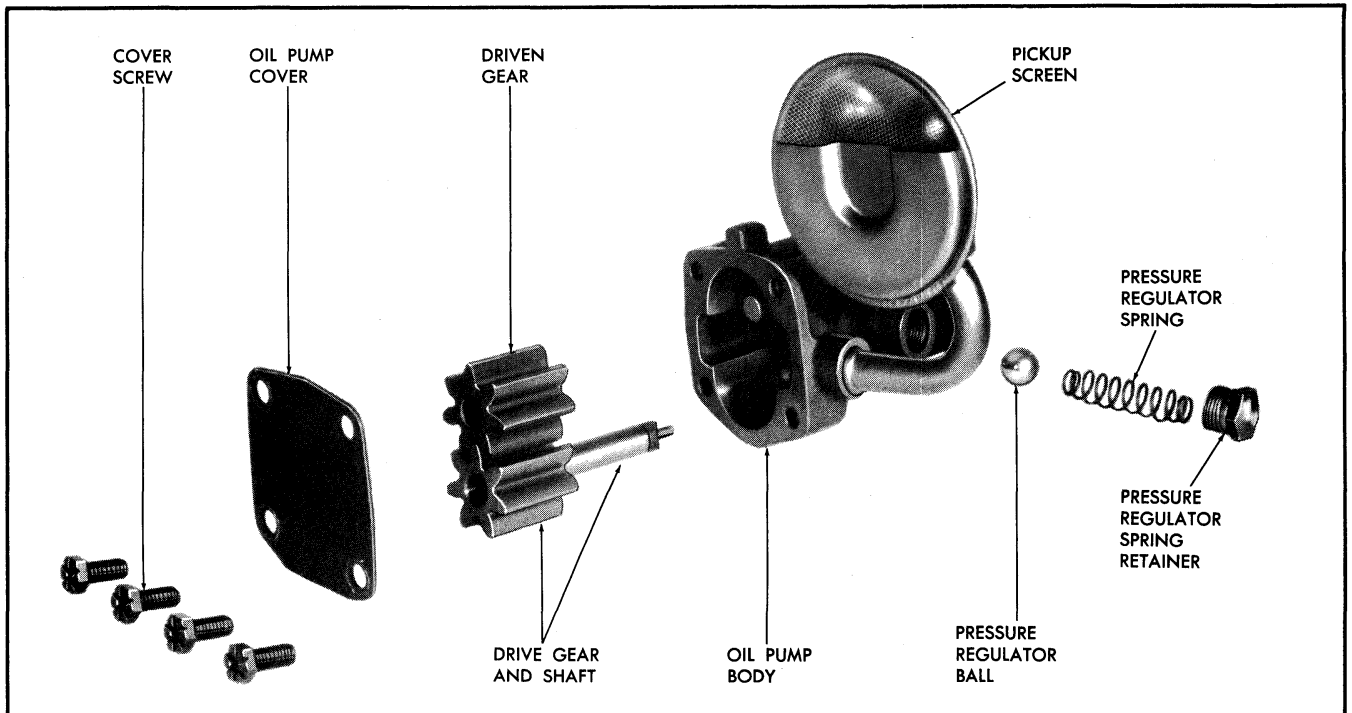

Fig. 6-128 Oil Pump - Exploded View
2. Inspect pressure regulator spring (Fig. 6-128) for distortion, cracks, and wear on sides.
5. Inspect pump gears and end of drive gear shaft for wear (Fig. 6-128).